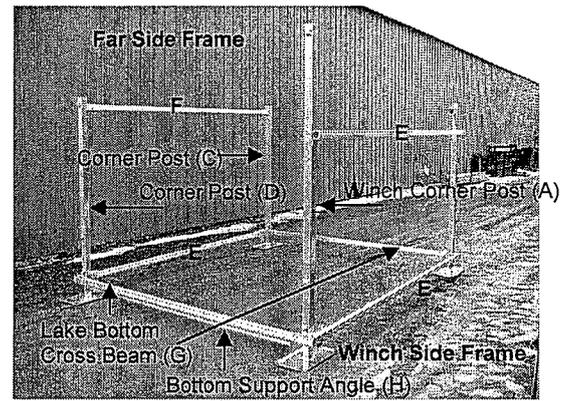
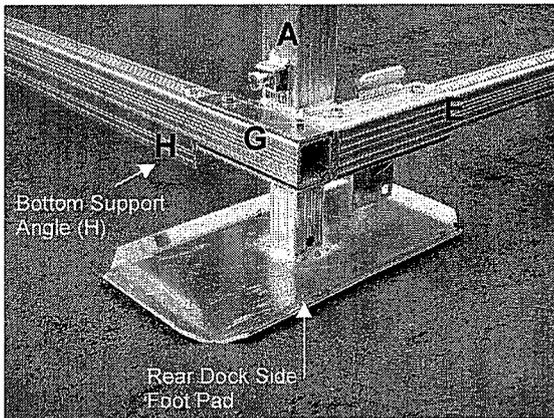

FIG. 14
FIG. 15
1. Connect the winch side frame and far side frame using Lake Bottom Cross Beams **G** as shown in FIG. 14. (See FIG. 15 & 16.)
2. Locate bottom support angle **H** and connect to lake bottom cross beam **G** as show in FIG. 14.